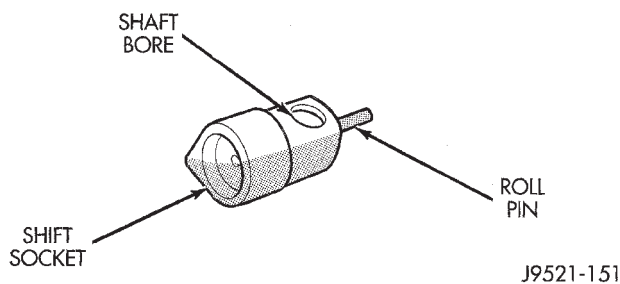

Fig. 24 Shift Socket And Roll Pin
(6) Remove shift socket from rear housing (Fig. 24).